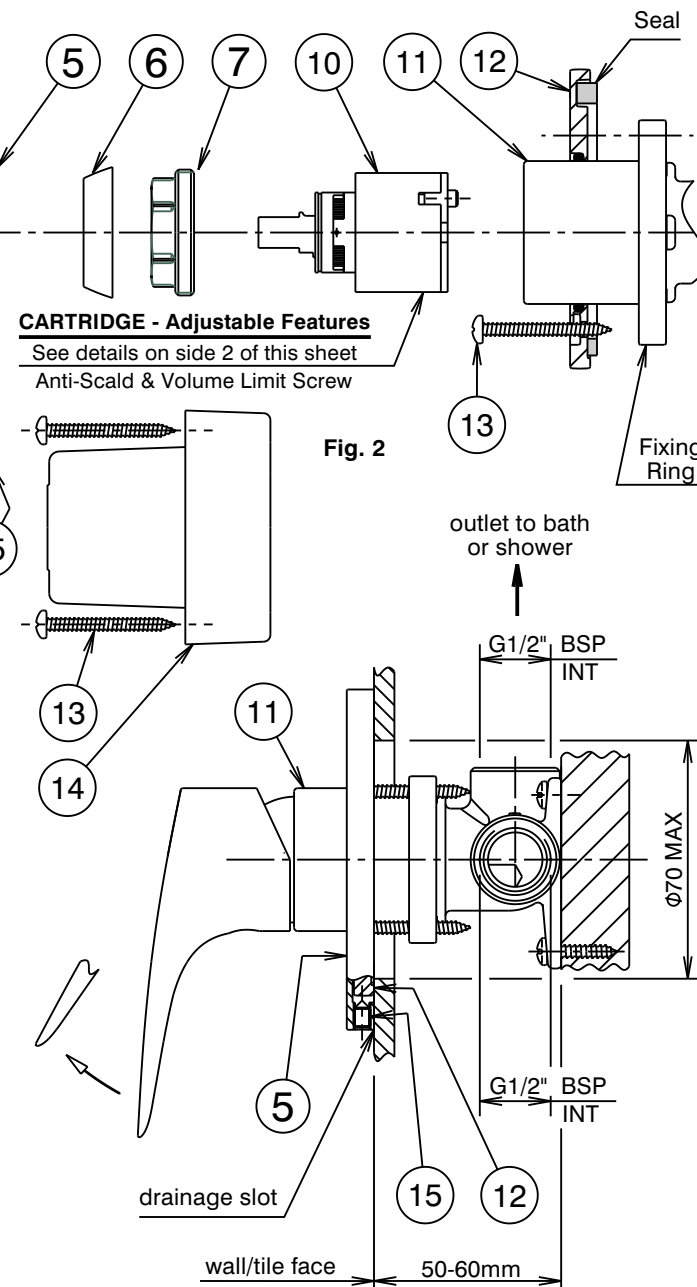

Fig. 1
Installation (Fig. 1 & 2)
- * Mixer body (11) must be installed square to wall/tile face, to ensure cover plate (5) sits flush.
- * To avoid damaging the decorative finish & to provide a guide for the tiler during the rough in stage, a protection cover (14) is screwed to the mixer. Remove protection cover only when completing the installation. **Note:** The same screws (13) are used to retain SmartSeal fixing plate (12). **DO NOT DISCARD.**
- 2) After removing the protection cover (14), rotate the fixing ring on the mixer body (11) so that one side of its square shape is horizontal. Slide the SmartSeal fixing plate (12) onto the mixer body (11), ensuring the bottom edge is horizontal. Fit screws (13) through the holes in the SmartSeal fixing plate until the point of each screw (13) enters the mating hole in the fixing ring on the mixer body (11). Tighten each screw (13) equally until the SmartSeal fixing plate (12) abuts the wall/tile face and the seal is fully compressed.
- 3) Carefully slide the wall cover plate (5) over the mixer body (11) with the screw (15) at the bottom. Locate the cover plate (5) onto the SmartSeal fixing plate (12) and push until the cover plate (5) abuts the wall/tile face. Adjust retaining screw (15) in wall cover plate (5), as shown (Fig.1), until the point of retaining screw contacts the bottom edge of the SmartSeal fixing plate (12) then tighten until the wall cover plate is held securely in position against the wall/tile face.
- 4) Fit handle (1) as shown, taking care that it is pushed fully onto cartridge stem, then tighten grub screw (2) using 2.5mm allen key (4). Insert plug (3) taking care not to damage the decorative finish.